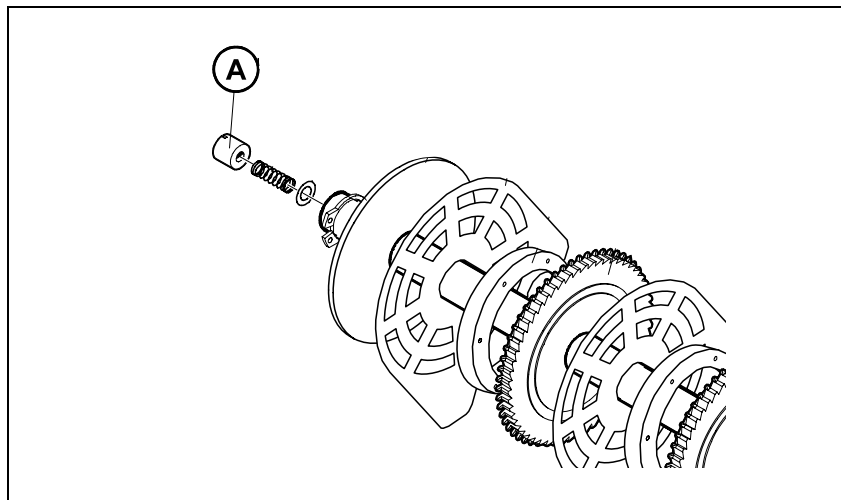

Figure 13-17. Feeder wheel pack end nut
2. If necessary, adjust by turning the nut (A in Figure 13-17) clockwise to increase the friction, counter-clockwise to decrease it.